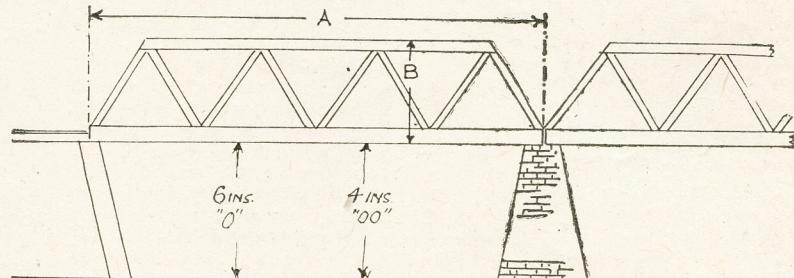
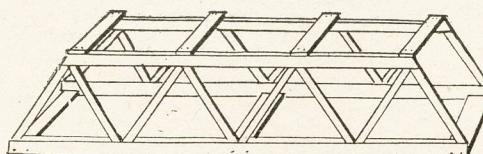

Fig. 1—A section on a girder bridge on a brick pier
Fig. 3—The girder pattern made into a section
greater than 15in., thus giving the depth of girder (B, in Fig. 1) at 3in., which will give a well-proportioned structure.
It will be seen that the end of the brass tooth, which protrudes beyond the panel, must be filed to fit easily in the sprocket holes of the film, as at (F) in Fig. 3. Make sure the fit is an easy one, or damage may result to the film. Now limit the outward movement of the upper half of the traveller with a small bent piece of tin, seen in Fig. 1 (4). It can be about ½in. long and should rise above the panel ½in., its bent-over edge just catching the traveller and preventing it rising higher. To regulate the distance travelled by the tooth, fit the part (5) (the regulator, seen on the pattern page) just below the traveller, when the latter is at its lowest point.
The shutter (7) can now be fitted. Turn the cam until the traveller rises and the compressor is just coming into action, then fix the shutter in the position shown in Fig. 1 where one arm just covers the window (8). It can be fixed with a small screw to each arm of the compressor below.